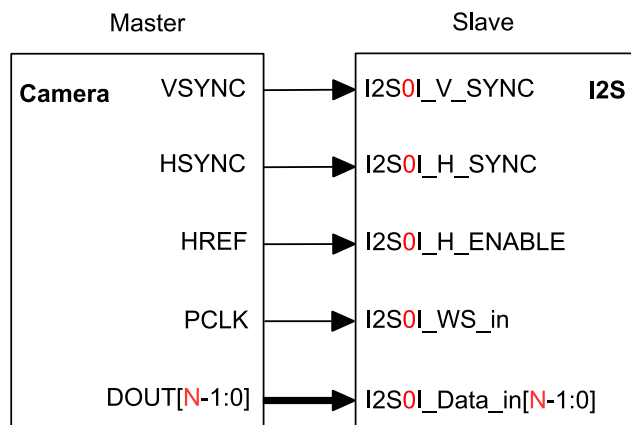

Figure 26-15. Camera Slave Receiving Mode
ESP32-S2 I2S can be configured as camera slave receiving mode for high-speed data transfer with external camera modules. In this mode, I2S module works as slave receiver with a 16-channel data signal bus `I2S0I_Data_in[15:0]`, and three more signals: `I2S0I_H_SYNC`, `I2S0I_V_SYNC`, and `I2S0I_H_ENABLE`, see Figure 26-15.
2. Configure signal pins according to Table 151 and Figure 26-15.